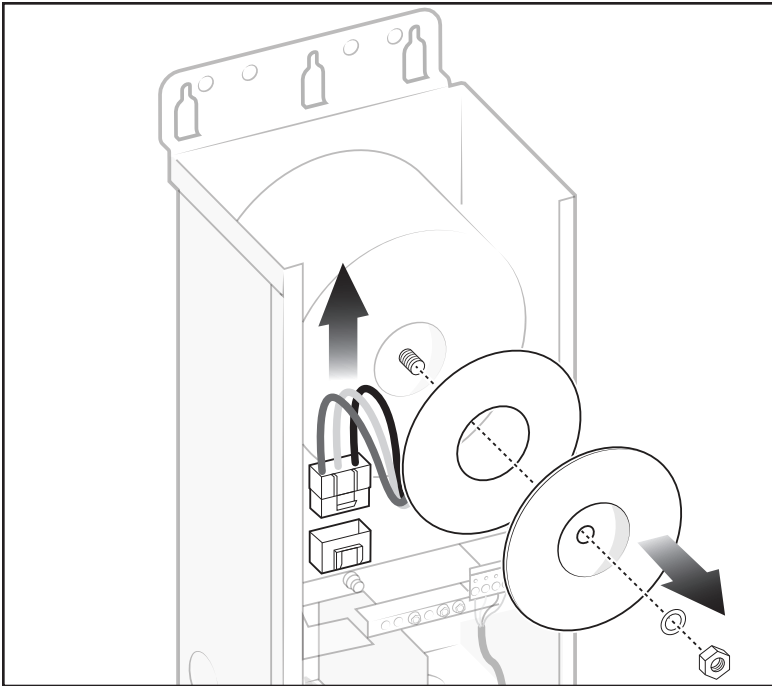

Figure 2. Unplug Input Wire Connector and Remove Transformer Nut
4. Unplug white transformer input wire connector harness, see Figure 2.
5. Use 14mm wrench to remove transformer nut, see Figure 2.
6. Remove transformer washers and gasket, see Figure 2